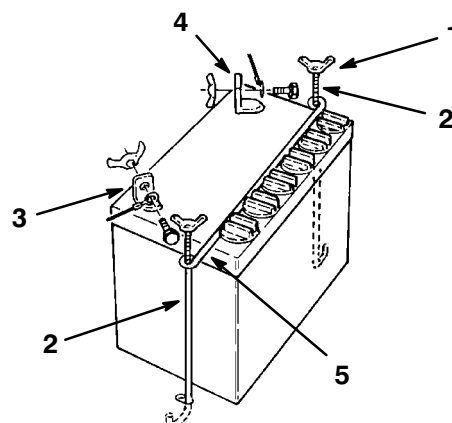

Figure 22
3. Disconnect the negative (black) ground cable from the battery post (Fig. 22).
4. Slide the rubber cover up the positive (red) cable. Disconnect the positive (red) cable from the battery post (Fig. 22).
5. Remove the wing nuts securing the battery hold-downs to the tractor chassis (Fig. 22).
3. Using the bolt and wing nut, connect the positive (red) cable to the positive (+) battery post (Fig. 22). Slide the rubber cover over the battery post.
4. Using the bolt and wing nut, connect the negative (black) cable to the negative (-) battery post (Fig. 22).